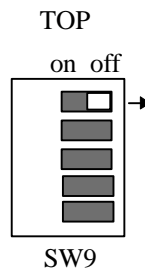

Figure1
3. Set the top switch of SW9 as shown in figure 1 below; do not alter any other switch setting. If this should occur refer to the settings written down in step 2.